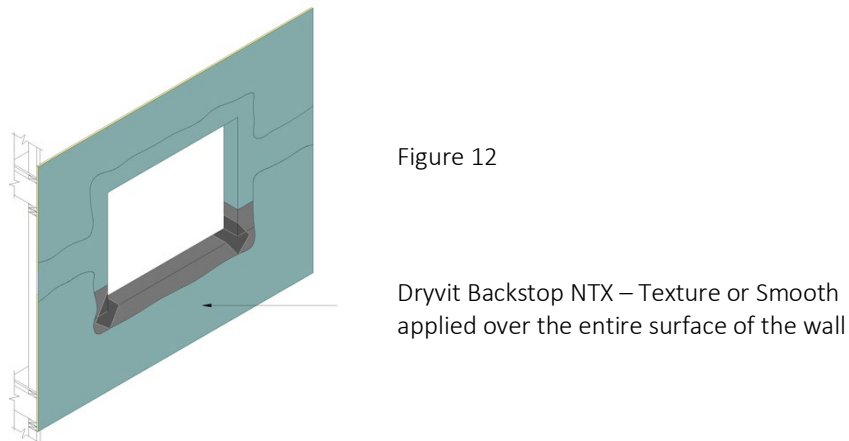

Figure 12
- 4) Install the specified component (i.e. window, etc.) and associated flashings per manufacturer's directions and contract documents. Then apply Backstop NT or NTX – Texture or Smooth to the remainder of the wall surface as described in Section 7 and lap over the previously installed material around openings – Figure 12..